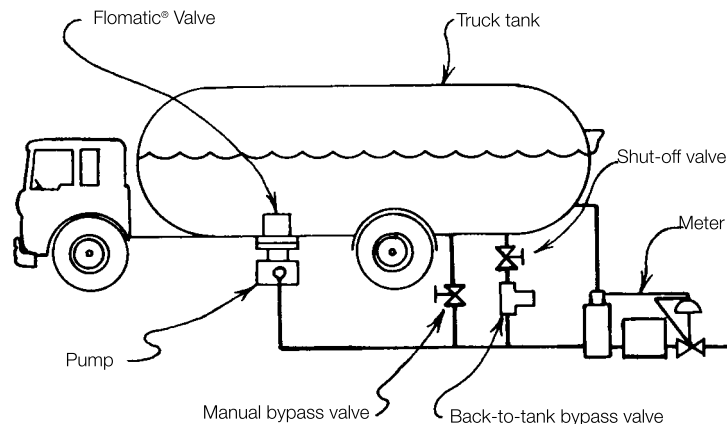

Figure 8b. Unloading Diagram of Delivery Truck with Manual Bypass Valve
1. Check the pump bypass piping. If your truck is equipped with a manual bypass valve, close it and try the pump again. (Figure 8b). If the Flomatic® valve indicating shaft moves to the open position, the problem is that the pump can't develop 20 pounds per square inch or more to "push" open the Flomatic® valve with the bypass valve open. You can prevent this in the future by not opening the manual bypass valve too wide.